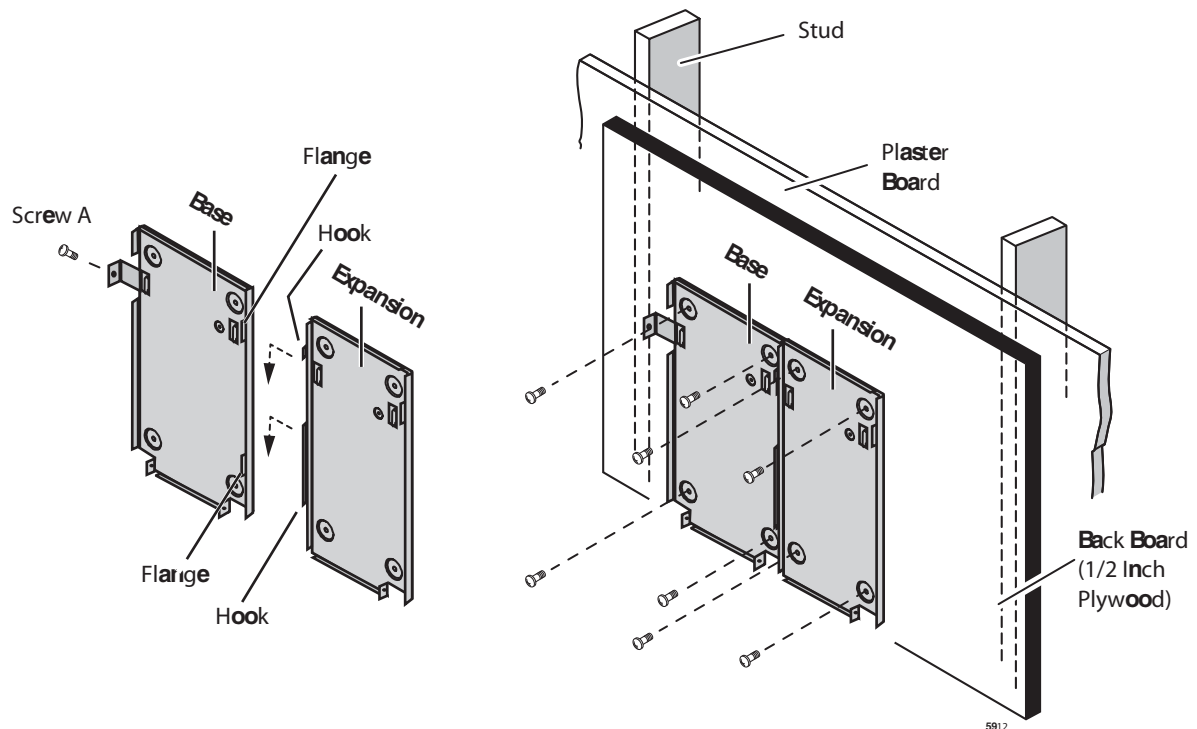

Figure 2-5 Cabinet Wall Mounting
2. Attach a 1.27cm (1/2”) thick plywood back board to the wall where the CTX100 will be installed. Secure the back board to the wall with screws attached to the wall studs, shown in Figure 2-5.
6. Hang the Base Cabinet back cover from the top two screws and then secure the top and bottom screws completely into the back board. The base back cover should now be tightly secured to the back board. See Figure 2-5.
8. Secure the Base Cabinet to the back cover with a screw through the left side bracket of the back cover to the Base Cabinet. (See Screw "A" in Figure 2-5.)
3. Place the Expansion Cabinet back cover next to the Base Cabinet back cover, making sure expansion back cover hooks fit into the base back cover flanges (see Figure 2-5).